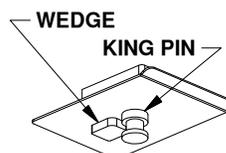
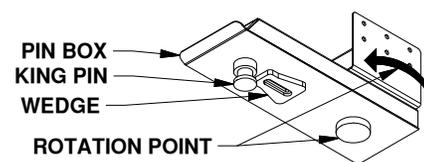

FIGURE G1: Capture plate.
FIGURE G2: Pin box with rotation point.
**⚠ WARNING:** Towing a trailer without a functioning pivot point between the hitch and trailer will cause significant damage to the hitch which may lead to serious injury or death. Some pin boxes such as a PullRite® SuperGlide Capture Plate remove the pivot point between a trailer and coupler and should not be used, see Figure G1. Pin boxes with a wedge that relocates the pivot point such as a Reese® Sidewinder or Reese® Revolution may be used, see Figure G2.